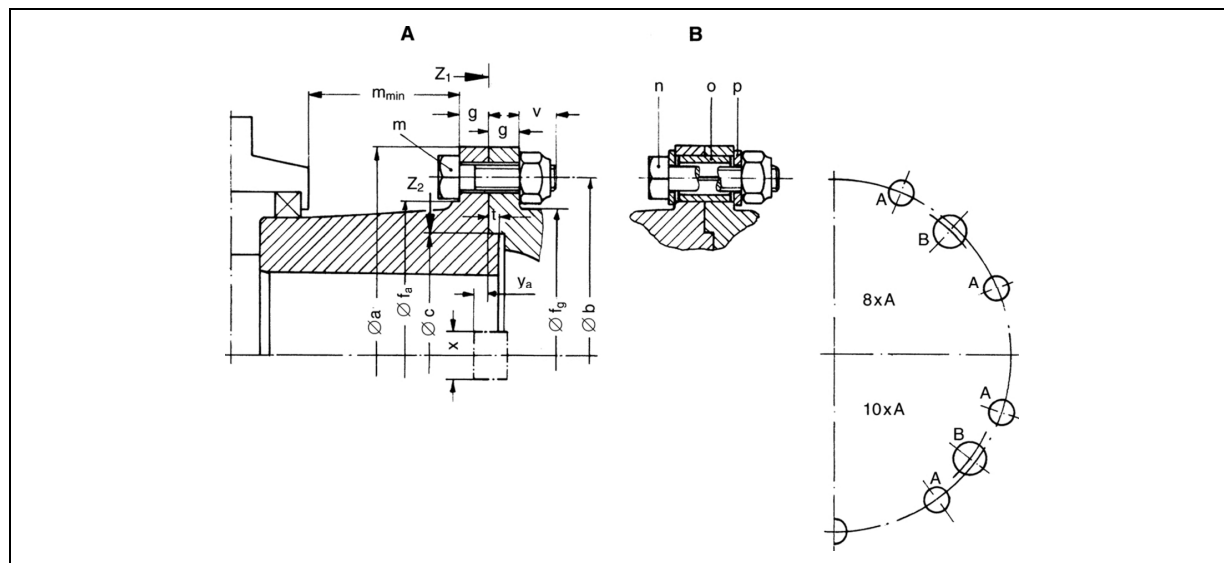

Fig. 6.1: Dimensions of the connecting flange and bolted connections
- ⇒ Select material that permits the use of bolts of the property class 10.9 (→ Fig. 6.1, page 36, Pos. m).
The dimensions of the connecting flange (→ Fig. 6.1, page 36 and Tab. 6.2, page 40) correspond to those of the universal joint shaft.